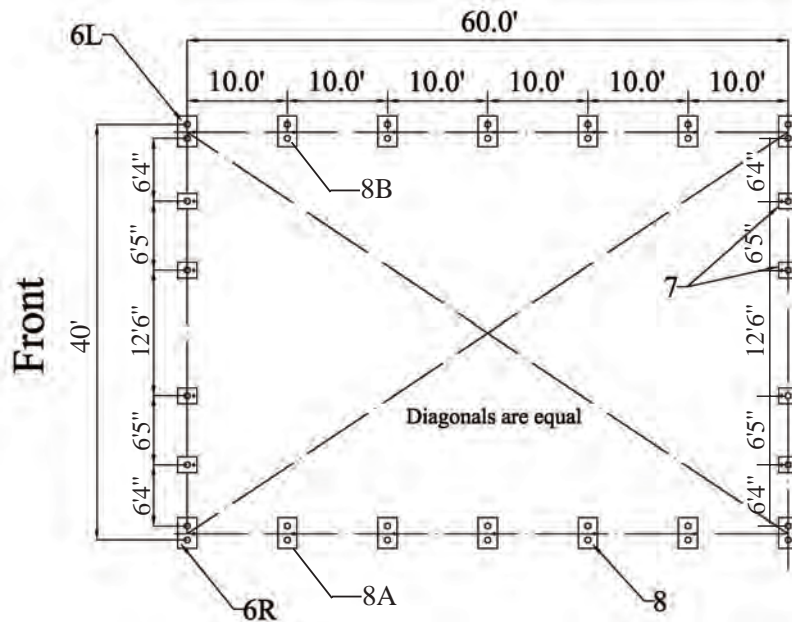

Figure 6 Position of Base Flanges
In order to assemble arches into a frame assembly, the Base Plates (6L, 6R, 8A, & 8B) must be secured to the mounting surface. Begin Refer to Figure 6 below for an exact layout of all base Plates.
Begin by determining exact location of the four (4) corners of the building. Mark front edge and side-to-side width of assembly on ground. Drive alignment stakes into the ground outside of the markings, and draw alignment strings along both ends and sides of the building to the dimensions shown in Figure 2. The outline of the strings will represent the final location of the base Plates. The initial location of each Corner Base Plates (6R & 6L) is critical to the alignment and fit of the frame components and cover. Locate the Left Corner Base Plate (6L) and Right Corner Base Plate (6R) for the front corners of the building. Secure the base Plates with either or both the Auger style anchor (Part #24) or the earth anchor (Part #25). Measurements shown in Figure 6 are to the center of the upright sockets on each Base Plate.
Layout and secure all Base Plates as shown in Figure 6.